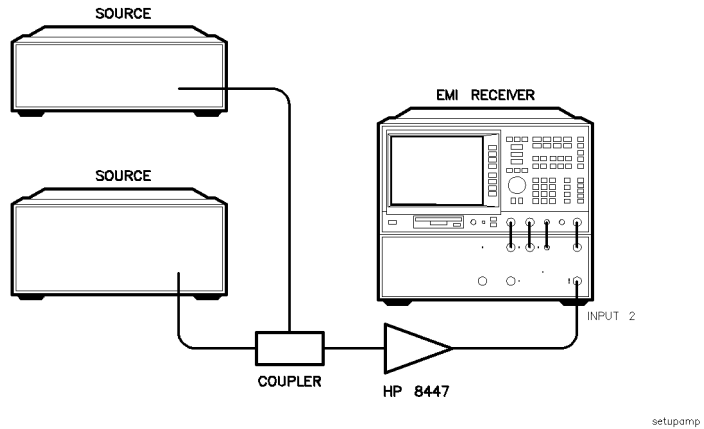

Figure 7-12. Setup for Making 3rd Order Measurements
1. Connect two sources to the receiver through an amplifier with the appropriate frequency range. Refer to Figure 7-12. Set one source to 300 MHz and 80 dB μ V (–27 dBm) and the other source to 301 MHz and 80 dB μ V (–27 dBm).